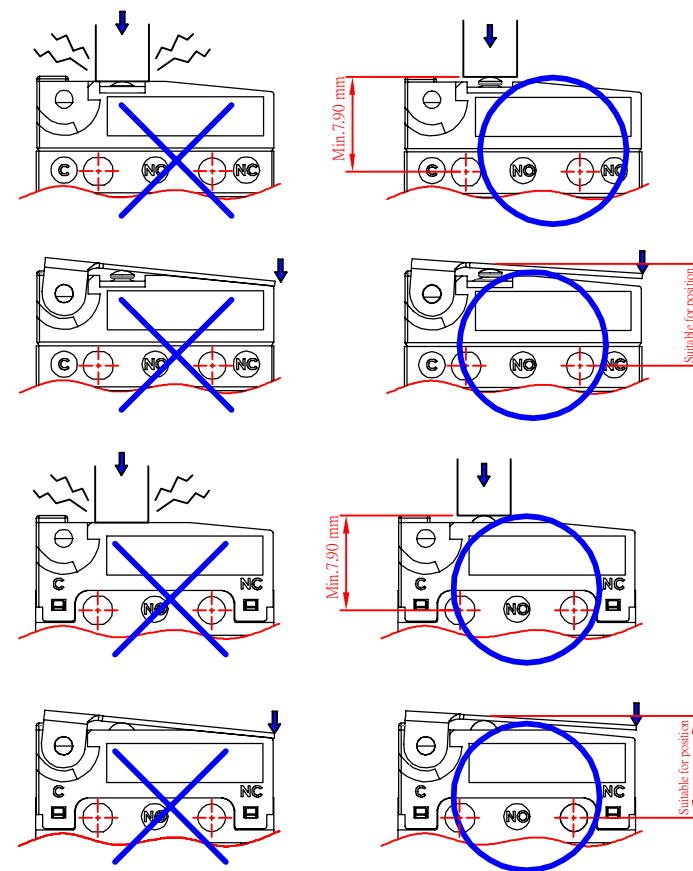

Figure-2
5: Do not exceed the end position (EP) and over travel (OT). This could cause operation failure. (Figure-2)